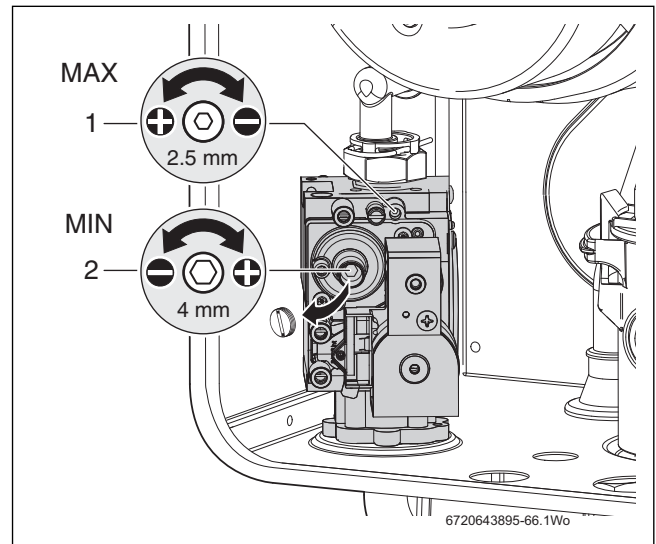

Fig. 72 Gas valve adjustment
- ▶ Refer to table 18 and check the CO/CO₂ at maximum and if required adjust for maximum via adjuster [1] figure 72 using a 2.5mm Allen key.
- ▶ Measure the CO/CO₂ and check against table 18. If required set the minimum CO/CO₂ via adjuster [2] figure 72 on the gas valve until the correct measurement is set: